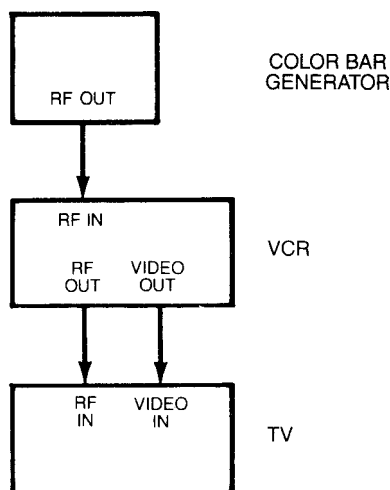

Fig. 2 - S-PIP Alignment Set-Up
1. Connect test equipment as shown in Figure 2.